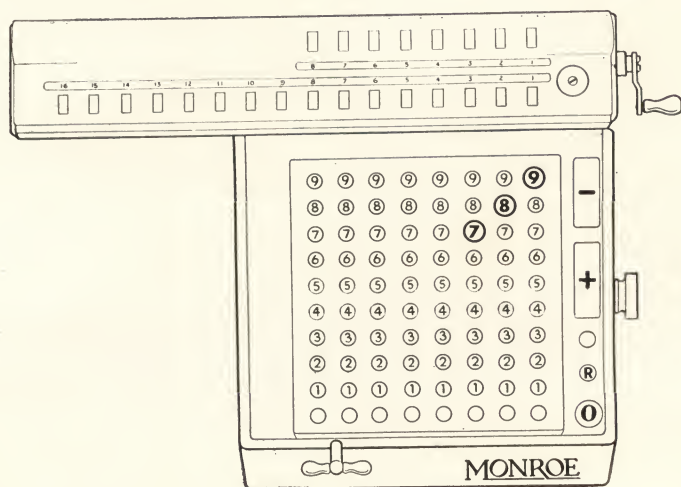

Figure 3
*Step 1*—With carriage in "1" position set 789 on extreme right of keyboard as shown in Figure 3. Depress plus bar until 4 appears in upper dials.